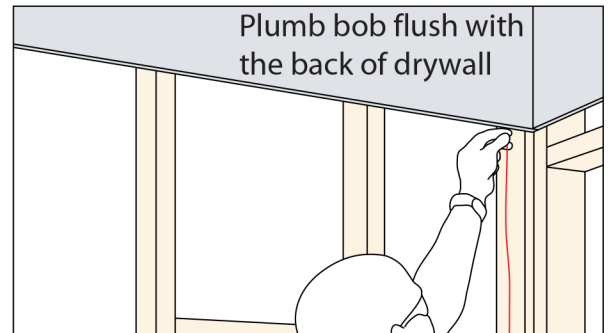

Figure 9
9. Hang a plumb bob FLUSH with the back side of the drywall from temporary screws. **See Figure 9**